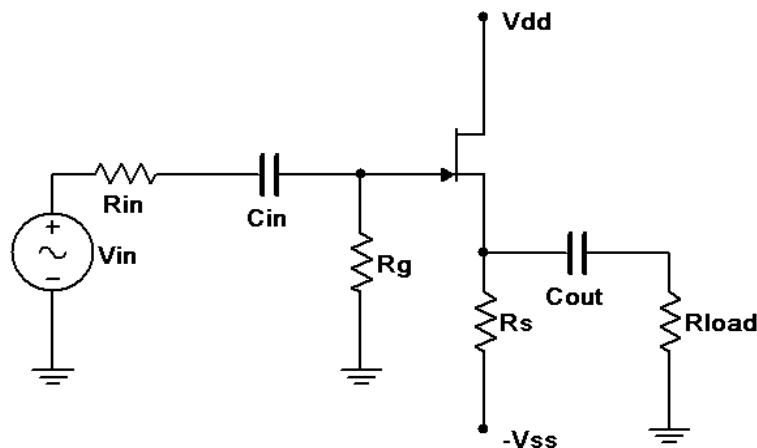

Figure 2
5. Consider the circuit of Figure 2 using $V_{dd} = 15$ volts, $V_{ss} = -3$ volts, $R_{in} = 33$ k Ω , $R_g = 330$ k Ω , $R_s = 4.7$ k Ω , $R_{load} = 22$ k Ω , $C_{in} = 10$ μ F and $C_{out} = 470$ μ F. Assuming $V_{GS} = -2$ volts and $g_m = 2$ mS (4 mS if using the J112), determine the theoretical gain and input impedance of the circuit and record in Table 2.
6. Build the circuit of Figure 2 using $V_{dd} = 15$ volts, $V_{ss} = -3$ volts, $R_{in} = 33$ k Ω , $R_g = 330$ k Ω , $R_s = 4.7$ k Ω , $R_{load} = 22$ k Ω , $C_{in} = 10$ μ F and $C_{out} = 470$ μ F. Set V_{in} to a 100 mV peak sine at 1 kHz. Measure the voltages at the gate and load, and record these in Table 2. Capture images of the input and gate voltages, and the gate and load voltages. Note whether or not the load is inverted compared to the gate signal.